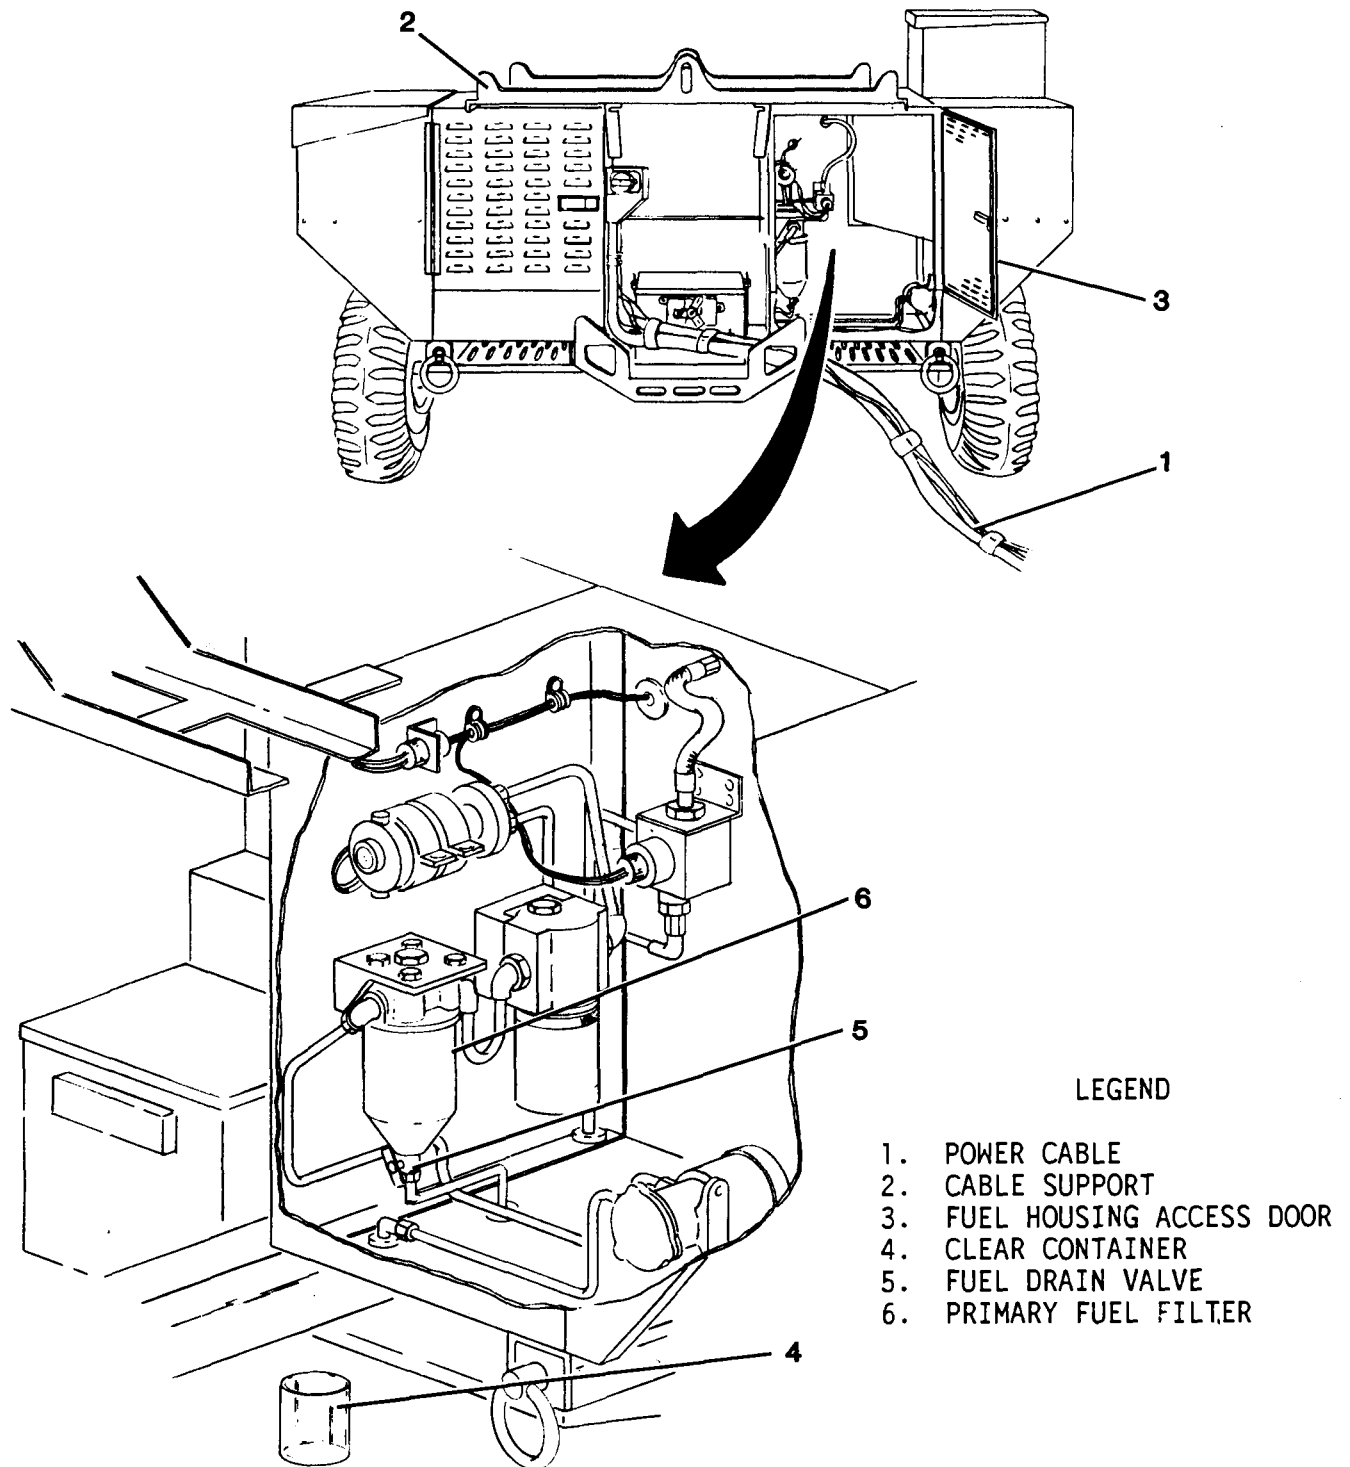

Figure 2-6. Draining Primary Fuel Filter
(1) Set handbrake.
(2) Open control panel access door. Ensure MASTER SWITCH is in OFF position. Close control panel access door.
(3) Remove power cable (1, figure 2-6) from cable support assembly (2).
(4) Unlatch and open fuel housing access door (3).